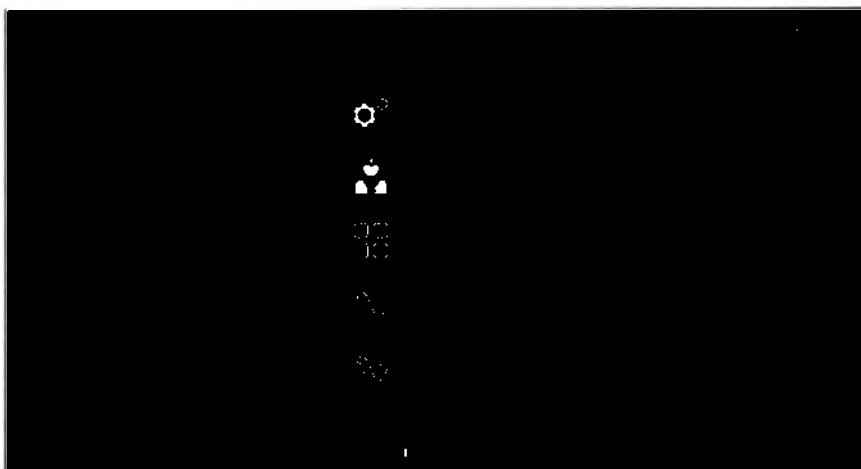

Fig. 45: Settings page
⇒ The settings page opens (Fig. 45).
55. **Figure 45**